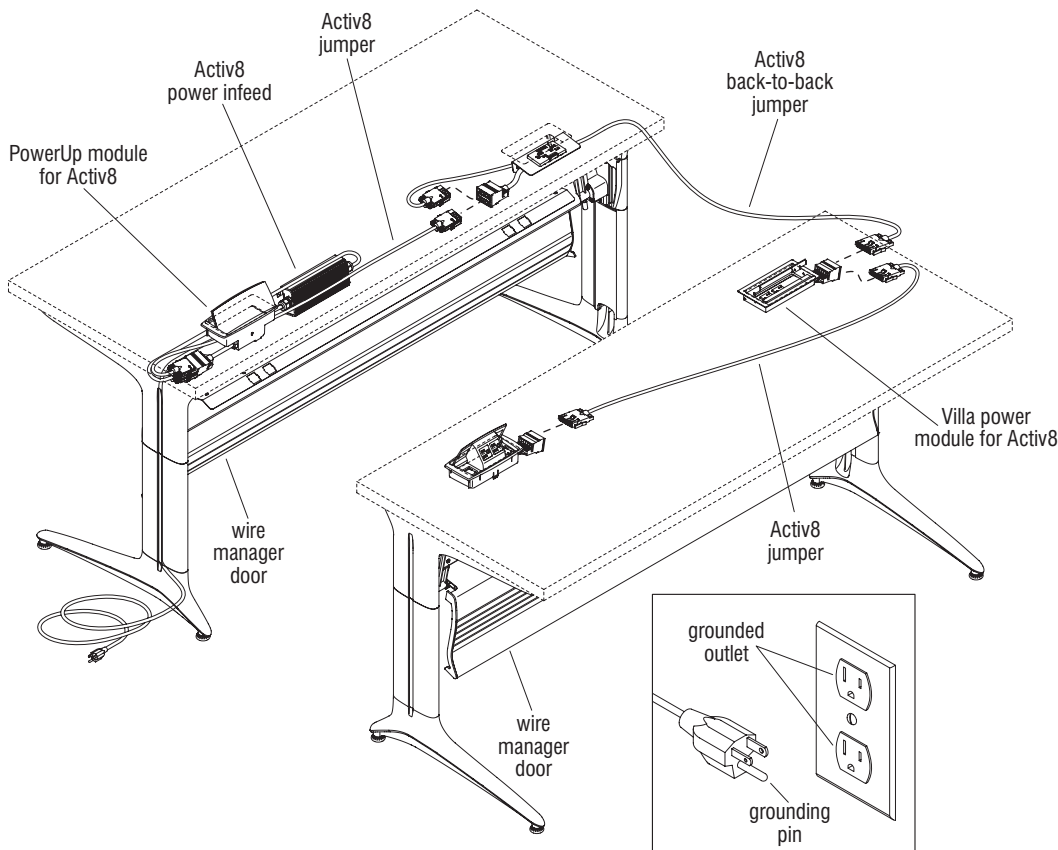

Figure 13
1. Jumper cables come in various sizes and connect Activ8 components between PowerUp, Villa & RPT modules and between work surfaces. Jumper cables are keyed and can only be plugged in one way (Figure 13).